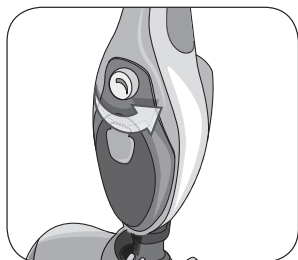
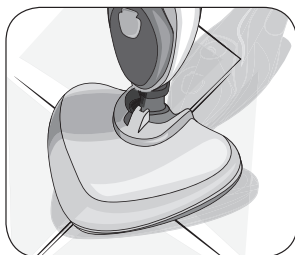

Fig. 8
Fig. 9
. After a few seconds steam will start to come out from the steam head. Turn the steam control knob (F) from a minimum to a maximum depending on the amount of steam required (Fig 8). Be sure to have first removed the dust from the floor before use. Use the appliance on the floor (Fig. 9).